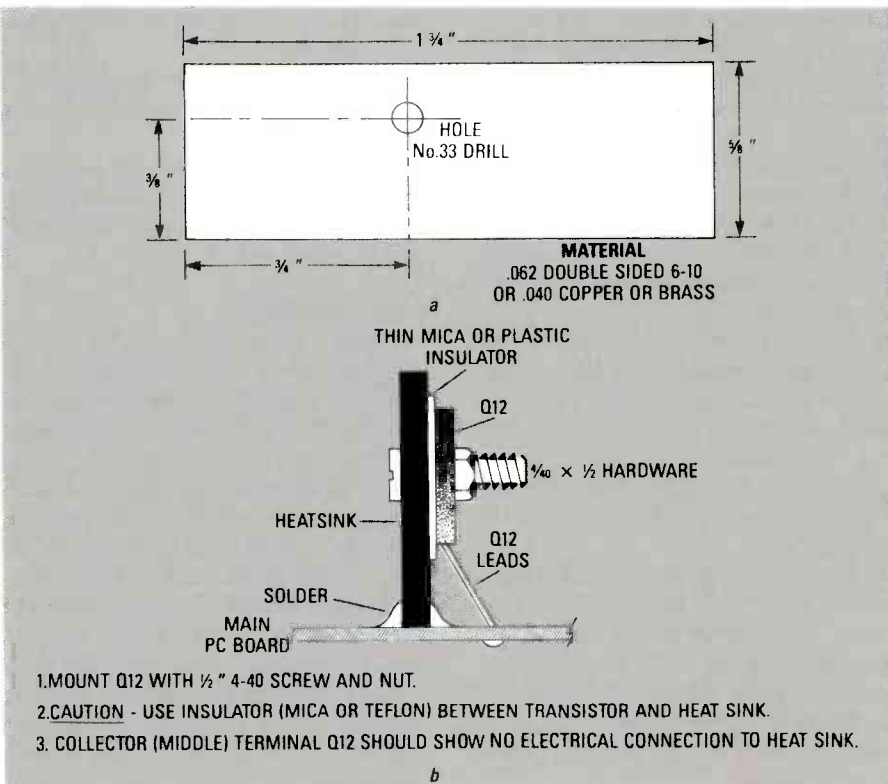

FIG. 2—THE ALUMINUM PLATE THAT IS USED AS A HEAT SINK FOR Q12 also functions as an RF shield for transistors Q6 and Q7.
7. Transistor Q12 must be heat-sunked because it must dissipate up to 3 watts. The method shown in Fig. 2 has proven adequate if at least 1-ounce copper is used. On the other hand, Q7 is adequately heat-sunked if the metal case is soldered to the PC-board ground plane.